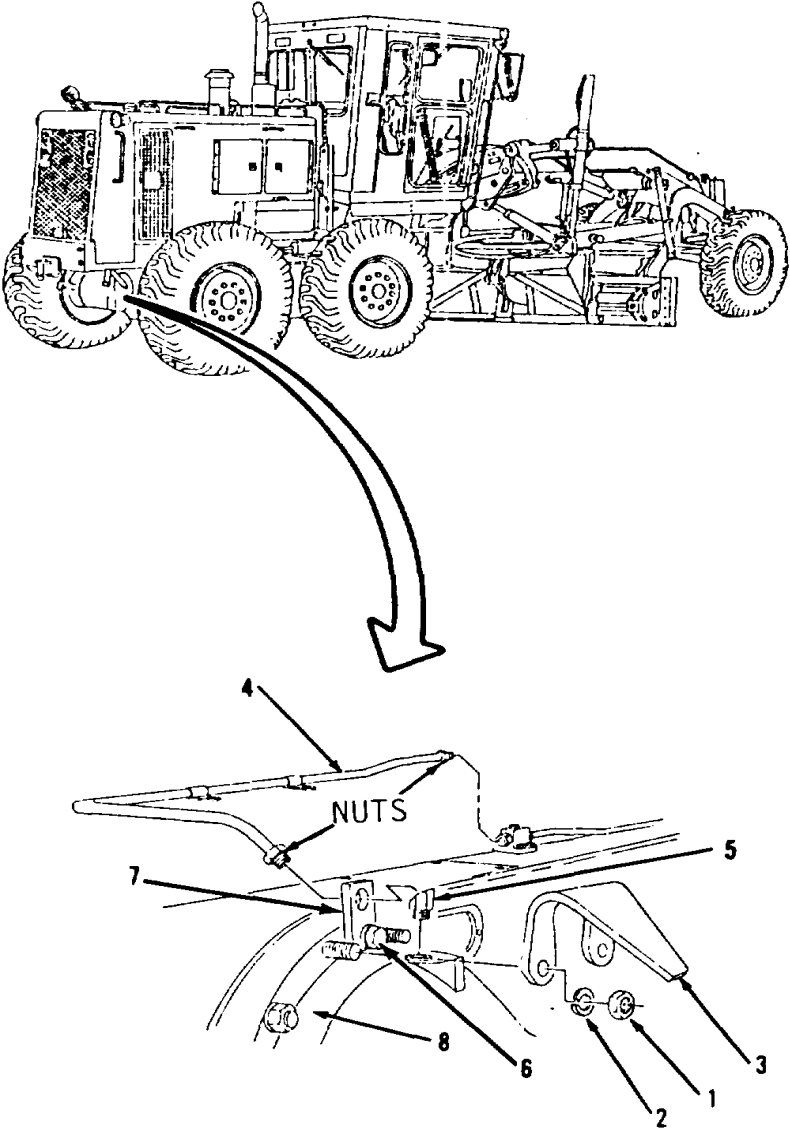

Figure 6-11.
- 1. Remove two nuts (1), lockwashers (2) and guard (3) from brake and wheel spindle housing assembly (8, Figure 6-11).